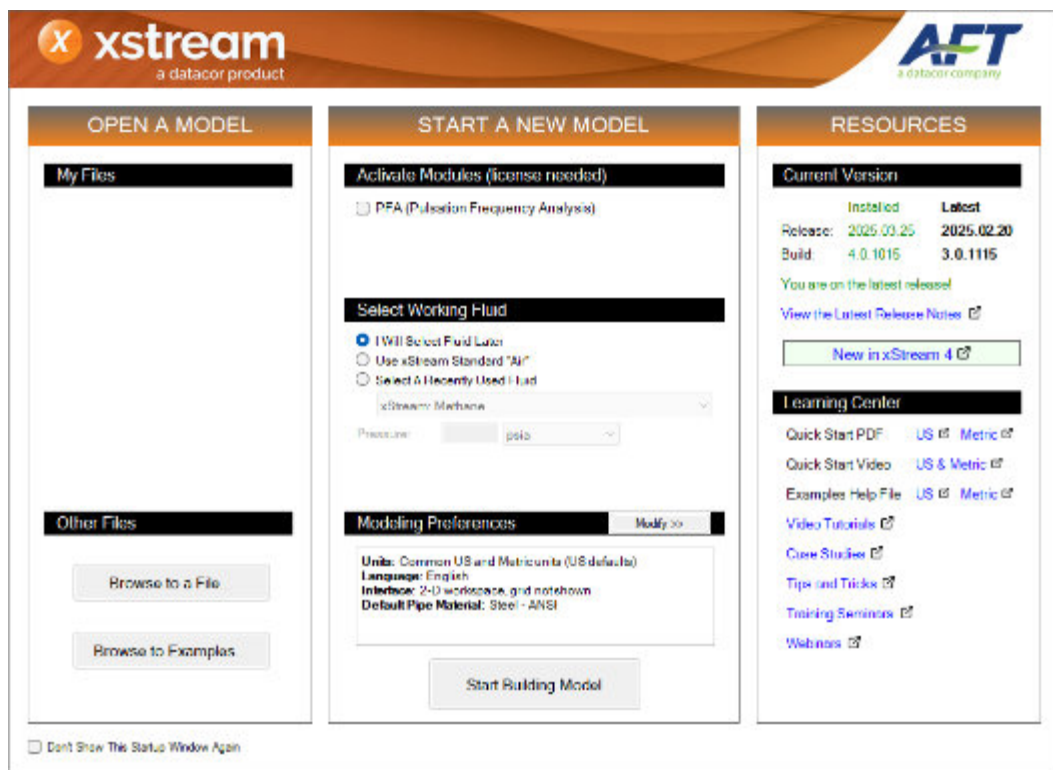
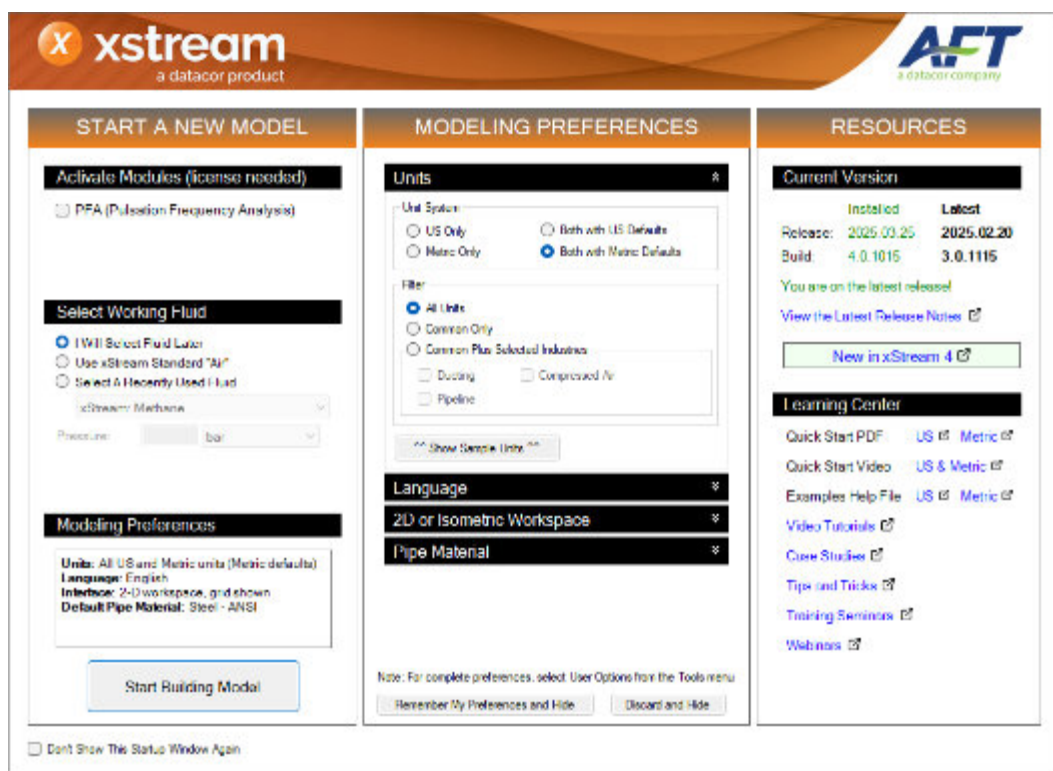

Figure 2.1 Startup Window with Modeling Preferences collapsed
Figure 2.2 Startup Window with Modeling Preferences expanded
As xStream starts, the Startup Window appears, as shown in Figure 2.1. This window provides you with several options before you start building a model.
If this is the first time that you have started xStream, Modeling Preferences will be expanded in the middle section of the Startup Window, as shown by Figure 2.2. If this is not the first time that you have started xStream, the Startup Window will appear with Modeling Preferences Collapsed, as shown in Figure 2.1.
When collapsed, you can view your current Modeling Preferences at the bottom of the Start a New Model section. To further review or adjust your preferences, click the Modify button (Figure 2.1).
- ▶ **With Modeling Preference expanded, as in Figure 2.2, select Both with Metric Defaults under Unit System.** The Filter section can be used to limit the number of units that are shown in the interface.